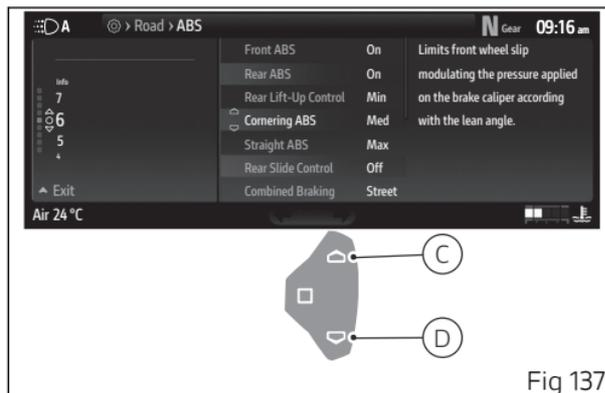

Fig 137
Using the quick-change buttons (C) and (D) it is possible to scroll through the descriptions provided by the instrument panel for each ABS element. The example shows the description regarding the cornering ABS feature (Fig 137).